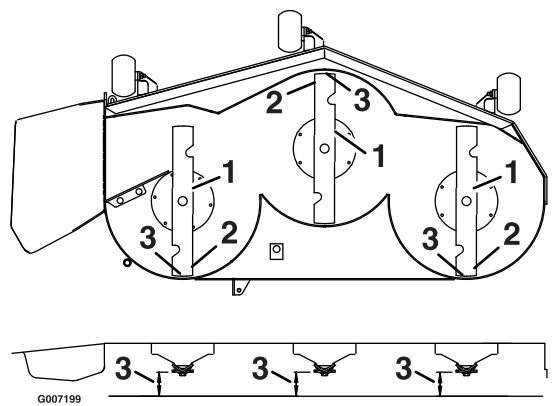

Figure 70
3. Carefully rotate the blades so they are facing front to rear (Figure 70).
4. Measure from the tip of the front blade to the flat surface and the tip of the rear blade to the flat surface (Figure 70).